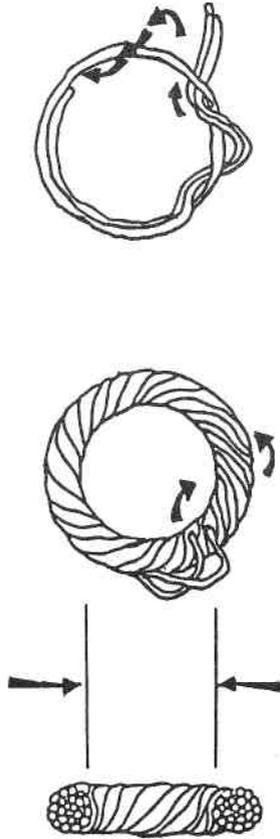

Fig. 2 - Ringlet
- 6 Make up a ringlet of caulking cotton as shown in Fig. 2.